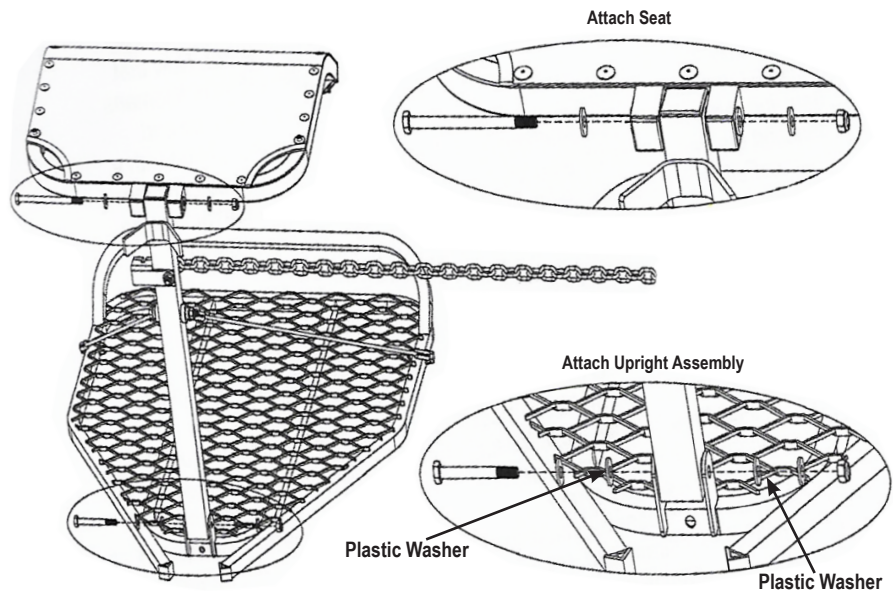

Figure 16
STEP 2: To install the upright assembly onto the standing platform, locate the 3" bolt, two (2) steel washers, two (2) plastic washers and one (1) locking nut. Slip the end of the assembly without the chain, into the platform hinge as shown in Figure 16. Secure the upright assembly using the 3" bolt, two (2) steel washers, two (2) plastic washers and one (1) locking nut as shown in Figure 16. Tighten the bolt/locking nut with the two (2) provided wrenches. NOTE: The two (2) plastic washers should be used to preclude metal-to-metal contact on the upright assembly and platform hinge. Tighten the hardware, however, DO NOT overtighten.
STEP 3: With the upright assembly installed, locate the 4.75" bolt, two (2) steel washers and one (1) locking nut. Slip the seat platform hinge (refer to Figure 16) onto the upright assembly as shown in Figure 16. Attach using the 4.75" bolt, two (2) washers and one (1) locking nut as shown in Figure 16. Tighten the hardware, however, DO NOT overtighten.